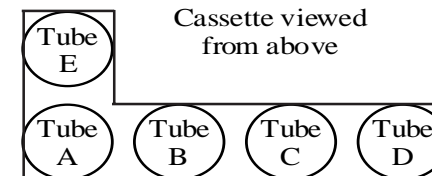

Figure 1
- 1) Remove the cassette fascia from the spine. To do so, dislodge bottom left of cassette fascia from spine. Once bottom is dislodged, slide down cassette fascia so it unlocks from spine( as shown in figure 1).
Insert the slot at the bottom of each tube into the spine of the cassette and hinge the top till the clip snaps into the spine (see figure 1).